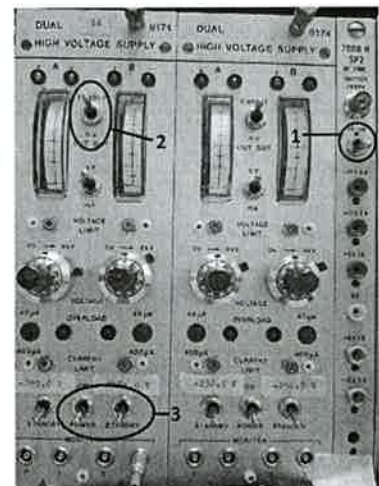

Figure 2: Front panel Power-On sequence.
1. Turn the **POWER** switch ON (Fig. 2, No. 1).
2. Turn the **ENABLE** switch ON (Fig. 2, No. 2).
3. Turn both the channel's **POWER** and **STANDBY** switches to ON (Fig. 2, No. 3).